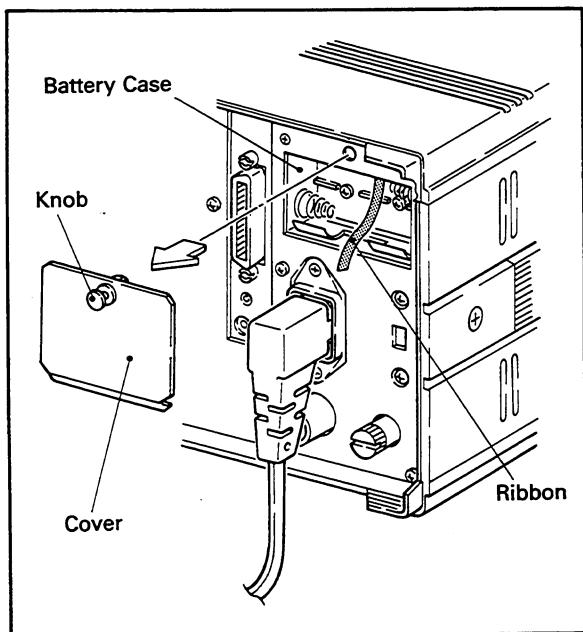

Figure 2-2.
- 1) On the instrument, "panel setting information protective dry cells" are installed for backup of setting information in case of a power failure or when the power switch is turned OFF. The battery is housed at the upper right corner on the rear of the mainframe as depicted in Figure 2-2.
- 2) By pulling the knob located at the upper middle of the battery cover shown in Figure 2-2, the cover is unlocked and can be taken out of the mainframe.